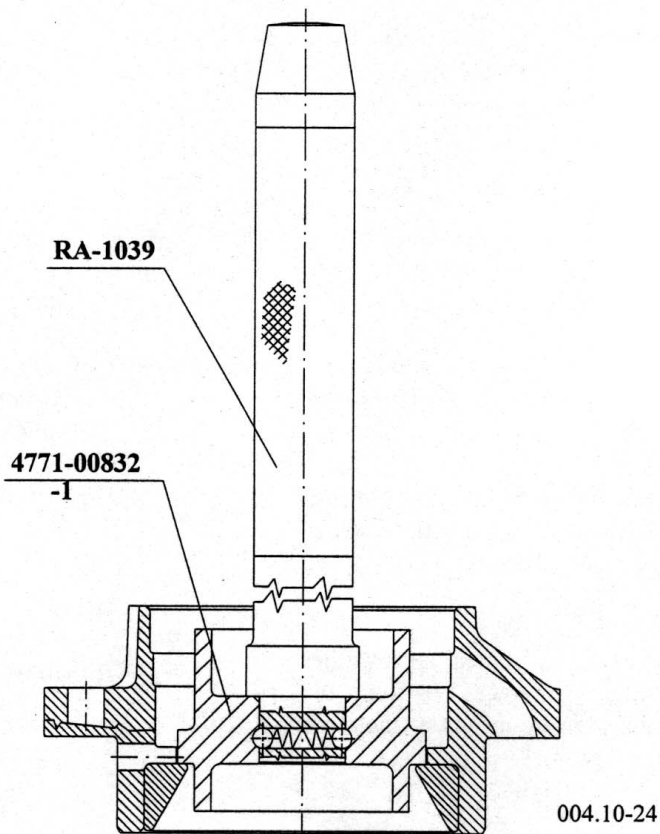

Fig. 5.: DRIVING OUT THE INNER TAPER ROLLER BEARING OUTER RACE
Turn the bearing cage and drive out the inner taper roller bearing outer race (12) by means of the tools shown (Fig. 5.).
Before pressing it onto the drive pinion subassembly the bearing cage as shown in **Fig. 5** on the loose-fit master shaft in order to determine the thickness of the spacer to be installed, while tightening the flanged nut to the specified torque.